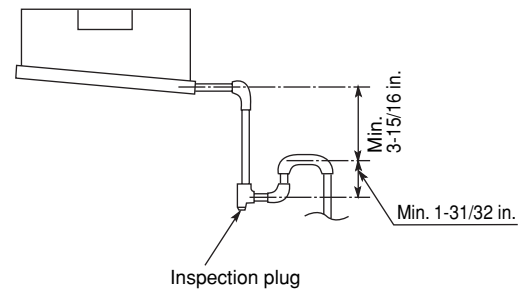

Fig. 3-85
- (5) Also, in another part of the pipe arrangement, prepare traps with an inspection plug to clean dust or debris that may cause leaking of water. (Fig. 3-85)
- (6) After connecting the drain piping, slowly pour water into the drain pan to check that the water drains smoothly.